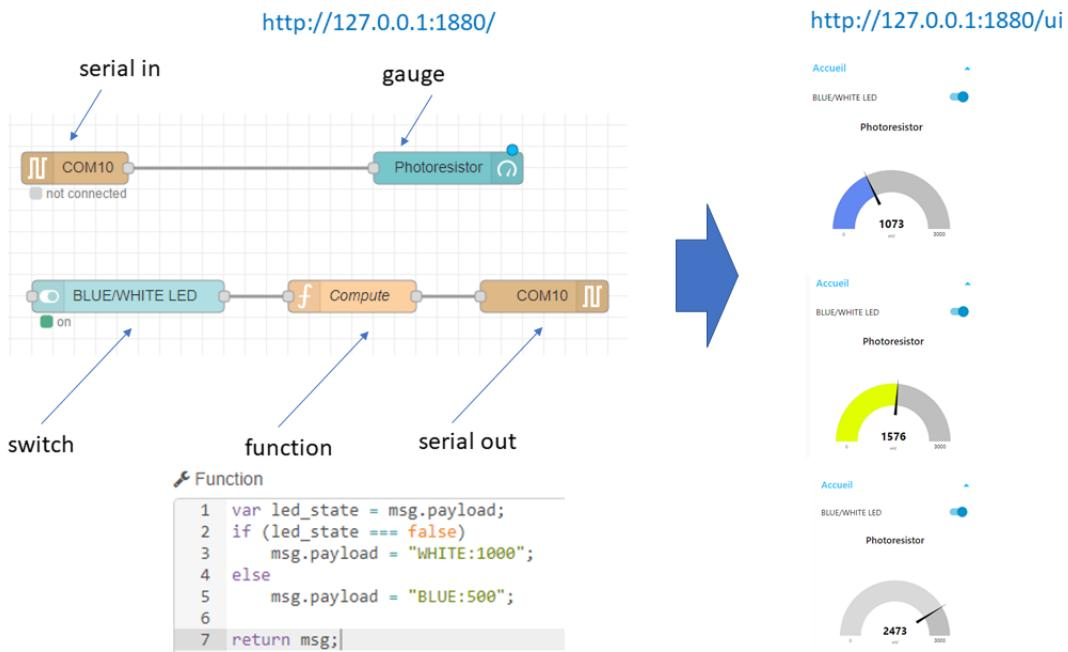

FIGURE 4.3 – Node-RED application.
- Import the provided « nodered-v1.json » file to Node-RED (Top Right Menu : Import and select the file) as depicted in the figure 4.3. This file is the « low-code » program of Node-RED. Look at the contents of the *Compute* function. The code is written in JavaScript.